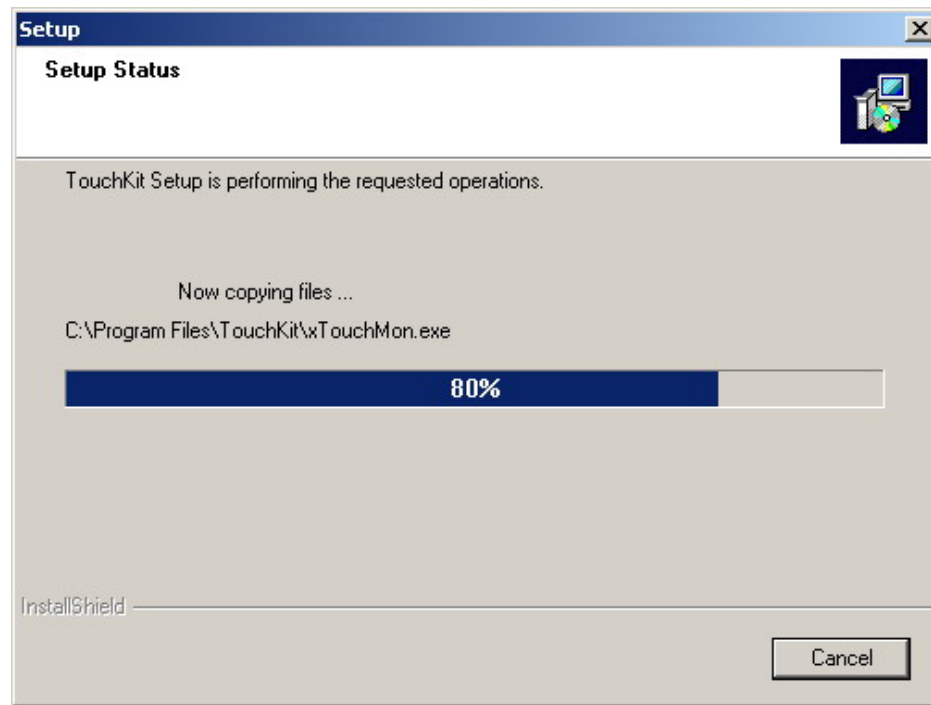

Figure 7-10: Installing
Step 13: The program then starts installing (Figure 7-10).